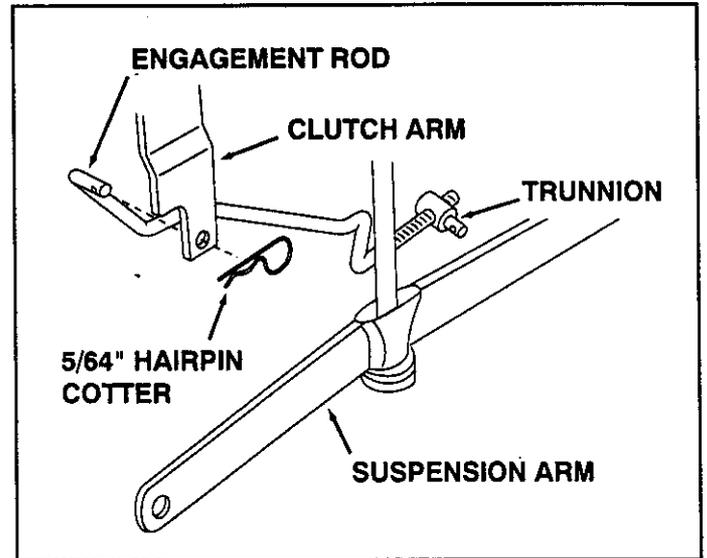

FIGURE 8 RIGHT SIDE VIEW
- Screw the trunnion onto the end of the engagement rod as shown in figure 8.
- Position the engagement rod to the inside of the clutch arm and insert the drilled end of the rod through the arm. Secure with a 5/64" hairpin cotter. See figure 8.